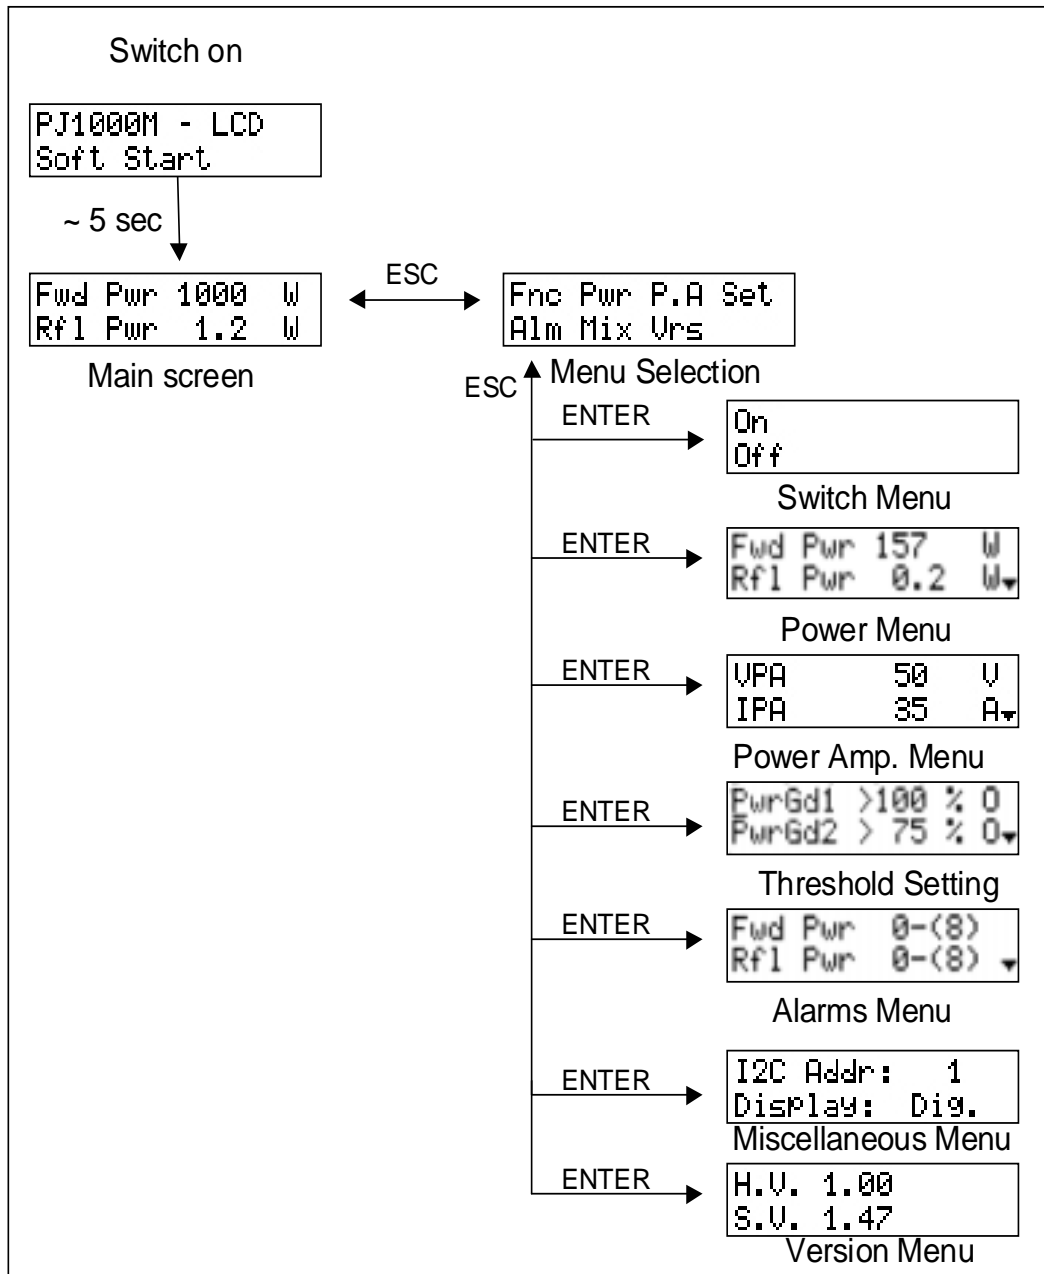

Figure 3 - Flow diagram of the software
- Check carotid pulse (**Figure 3**); if pulse is absent, begin artificial circulation (**Figure 4**) depressing sternum 1 1/2" TO 2" (**Figure 5**).
The flow diagram in figure 3 gives an overall view of the user interface of the software.